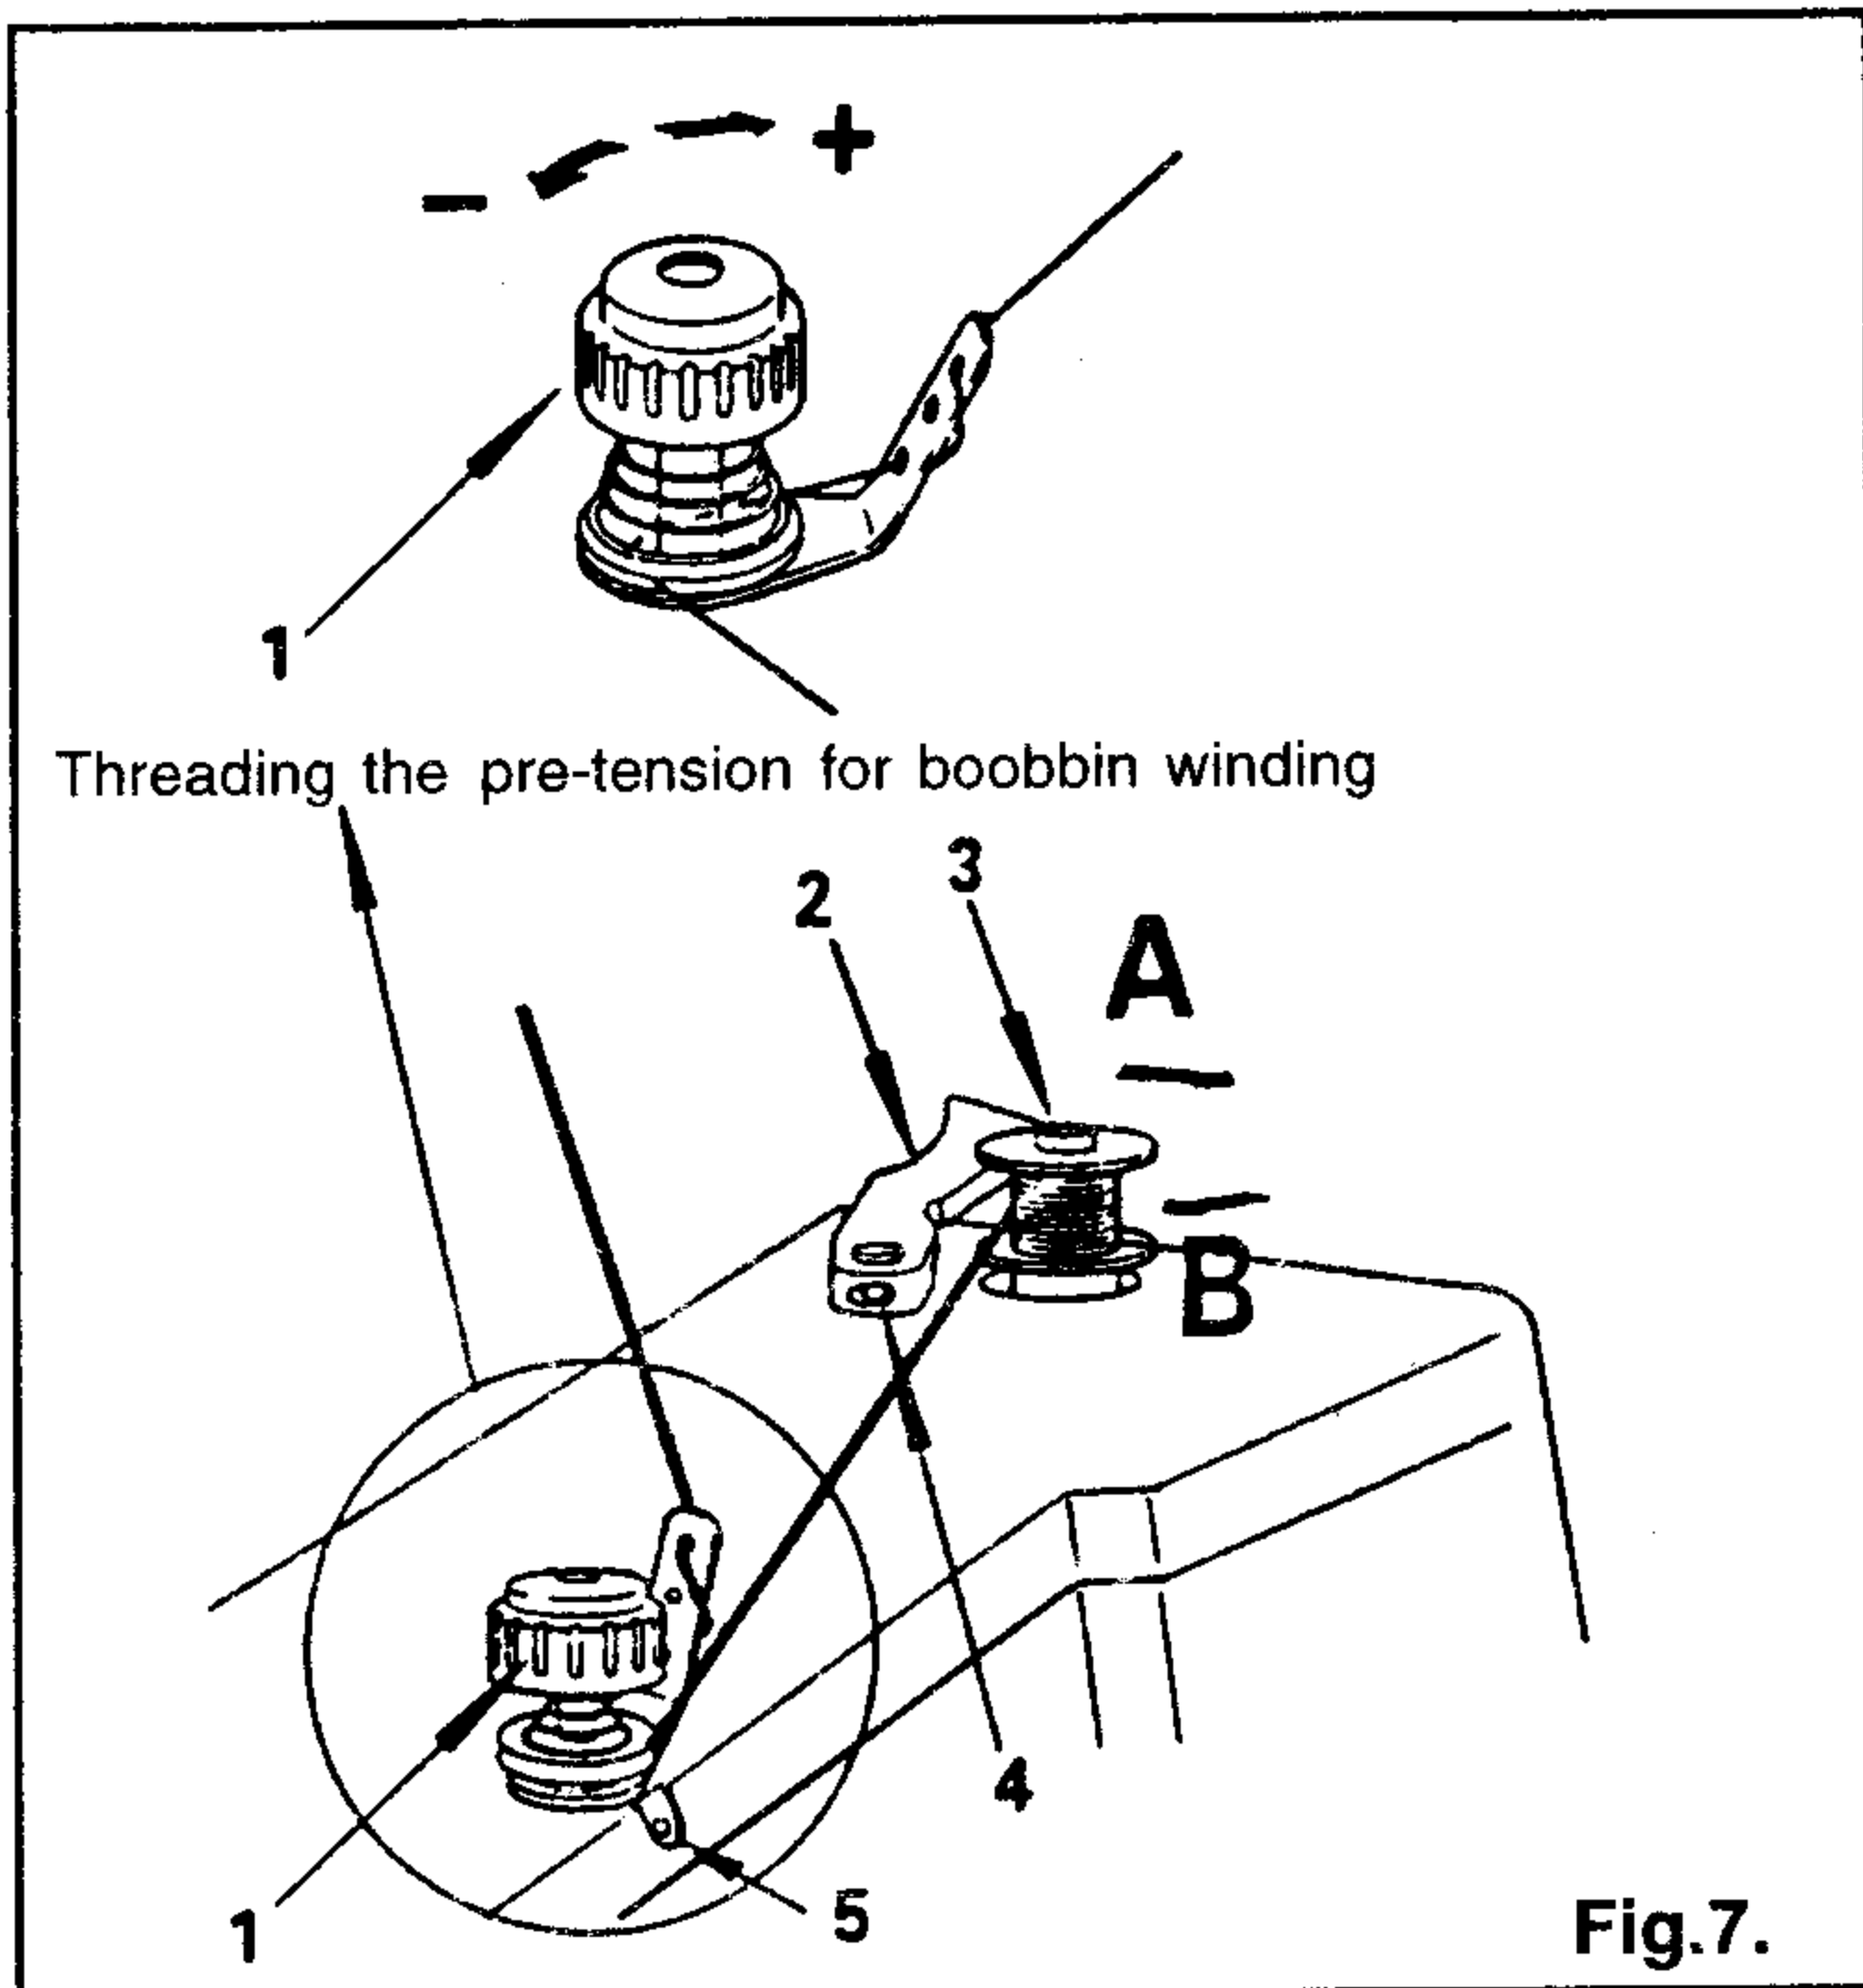

Fig.7.
2. Place bobbin on bobbin winder spindle (3), Fig.7, pushing it on as far as it will go.
Pre-tension (1) (See Fig.7)
3. Push latch (2) in the direction indicated by arrow (A), then start the machine.(See Fig.7)
Bobbin winder spindle (3) rotates in the direction indicated by arrow (B).(See Fig.7)